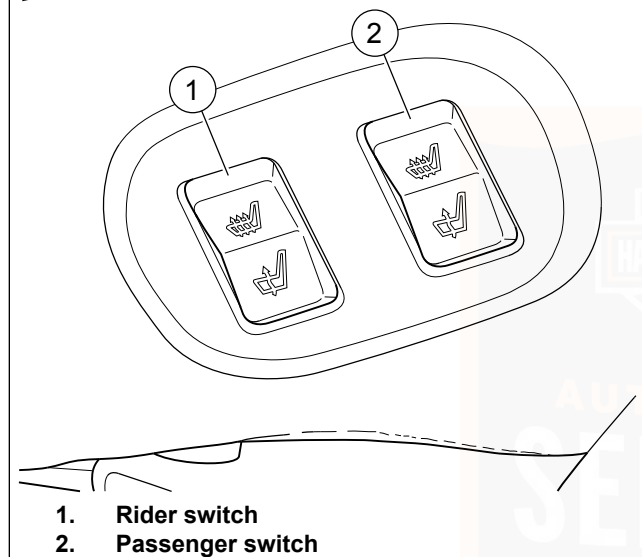

Figure 30. Heated Seat Switches
See Figure 30. The heated seat controls for the rider (1) and passenger (2) are on the left side of the seat.